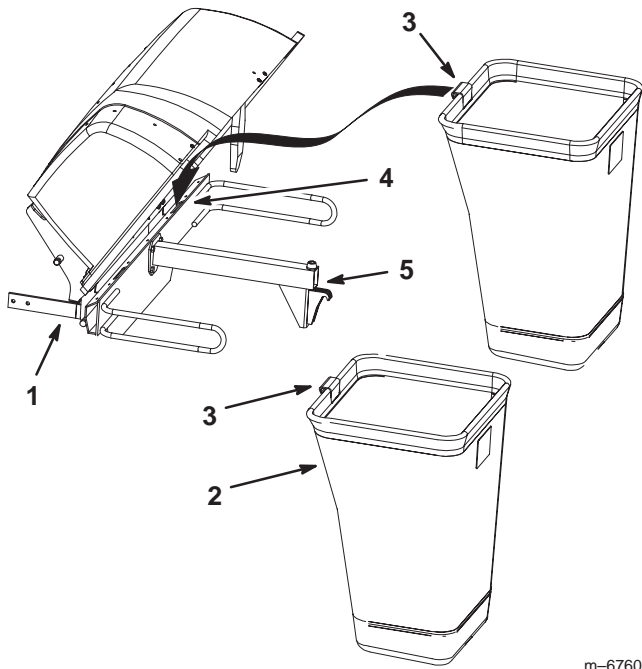

Figure 22
3. Install the bag tab into the notch in the hood assembly (Fig. 22). Do this for both bags.
Note: The bag will rest on the bagger frame (Fig. 22).